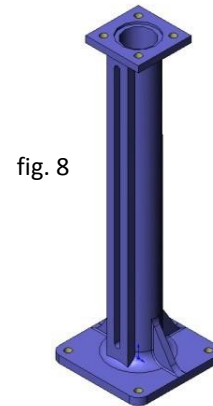

fig. 8
- Straight floor stands (Fig. 8)
-Actuator or Yoke Support: Made of EPOXY-coated steel (or stainless steel on request), its robust design gives it great rigidity in order to resist the most adverse operation conditions (Fig. 8).